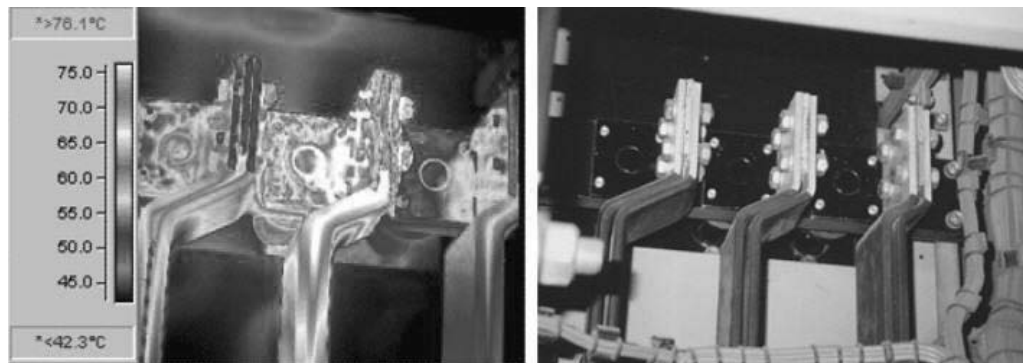

Figure A-28 Loose or overloaded connection.
**Bus Bar Connections** may be loose causing excessive heat, or the loads may be unbalanced. These conditions can be detected when the panel is open or there is a window in the panel cover. See Figure A-28.